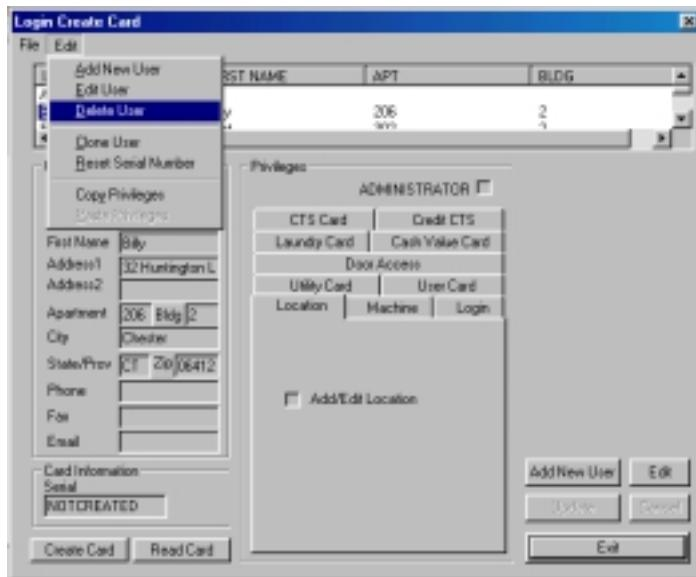

Figure 4.13 Deleting a Login User
3. Select Delete User from the Edit drop-down menu (Figure 4.13).